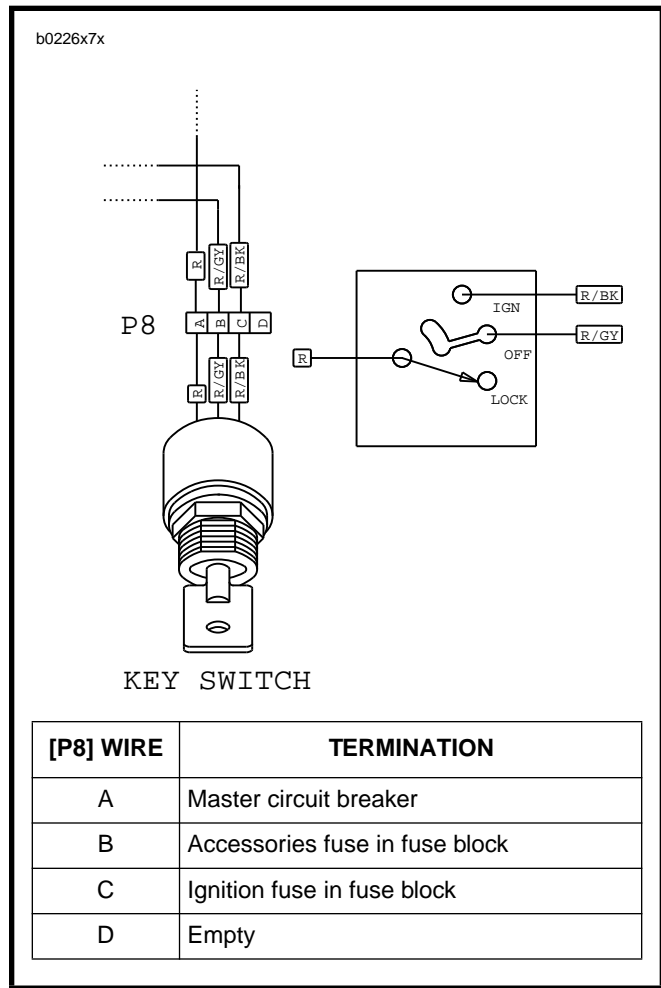

Figure 7-6. Ignition Switch Connector [P8]
4. See Figure 7-6. Disconnect ignition connector [P8] from main wiring harness.
2. See Figure 7-6. Attach ignition switch connector [P8] to main wiring harness.